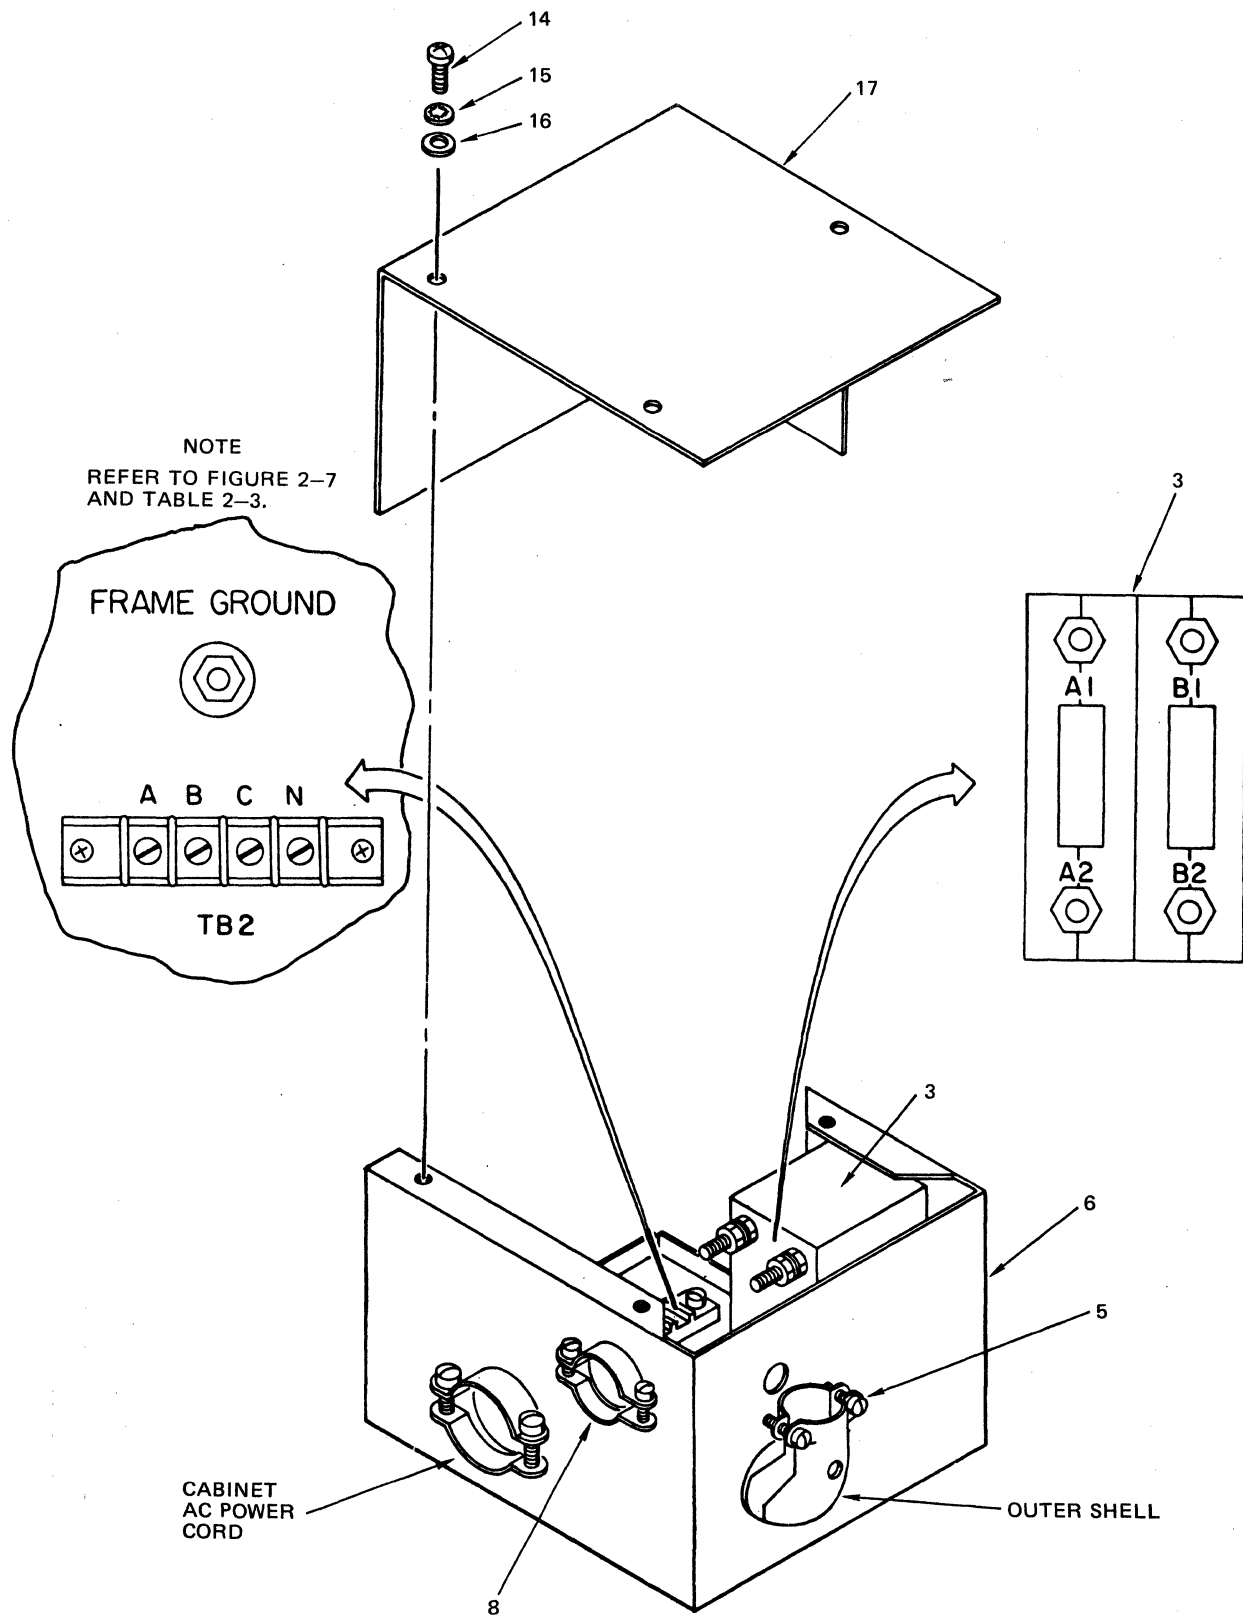

Figure 2-10 Cabinet Circuit Breaker Box
9. Referring to Figure 2-10, install ac power cord as follows:
10. Remount circuit breaker (Table 2-3, item 3) to front of circuit breaker box using attaching hardware.
12. Tighten cable clamp (item 8) holding ac power cord from upper unit of cabinet.
13. Replace circuit breaker box cover (item 17) by fastening the three sets of attaching hardware (items 14, 15, and 16).